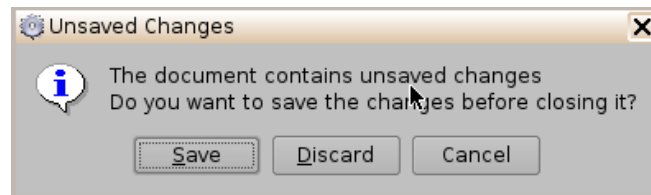

Figure 180: Unsaved Changes Window
- Selecting the Reset button will close a document without saving the changes. The user will be prompted to a window asking to save the changes (Figure 180). Use this with caution.